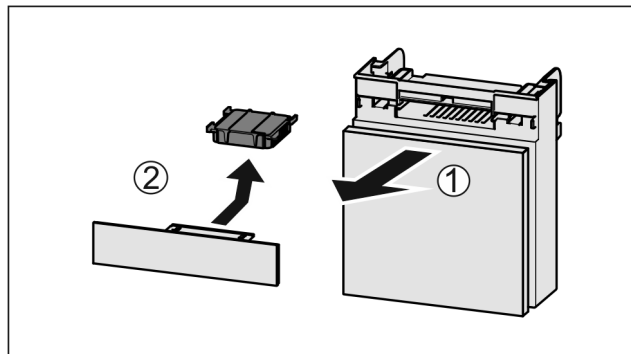

Fig. 129
- Pull out the compartment Fig. 129 (1).
- Remove the carbon filter Fig. 129 (2).